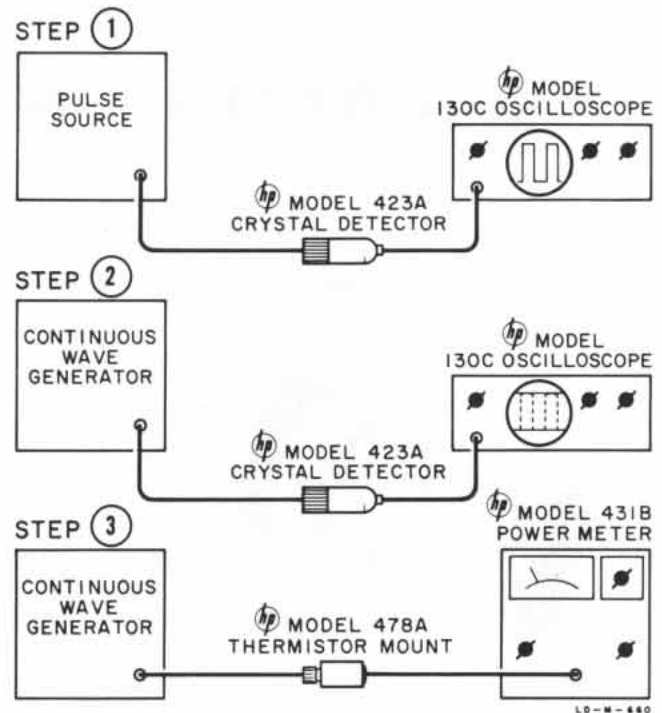

Figure 2. Peak Power Measurement
13. The power applied to the Model 423A Detector can be either modulated or continuous wave (CW). If modulated at a 1000-cps rate the sensitive hp Model 415B/D can be used as the indicator. For CW detection, a dc milliammeter or millivoltmeter such as the hp Model 425A Microvolt-Ammeter can be used as the indicator.
15. The arrangement of equipment for peak power measurement is shown in Figure 2. The procedure involves calibration of an oscilloscope which in turn is used to calibrate a CW generator. The output of the calibrated CW generator is measured with a power meter; the peak power of a pulse is thereby measured. The procedure is as follows:
- a. Connect equipment as shown in Figure 2, step 1.